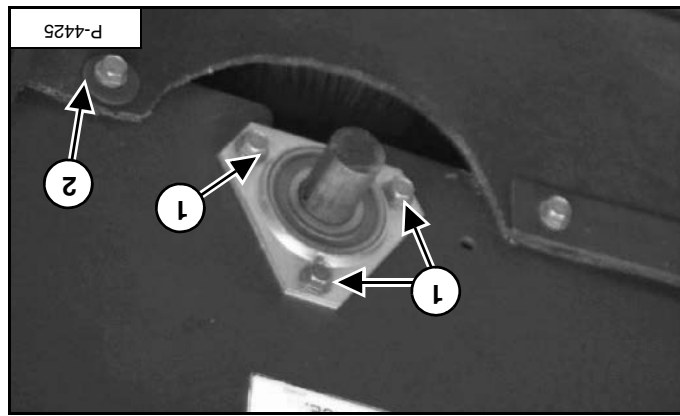

Figure 120
Install the bolts (item 1) [Figure 120] onto the bearing mounting flange (both ends).
The rubber side cover (item 2) [Figure 120] (both ends), can be tightened or installed if needed.